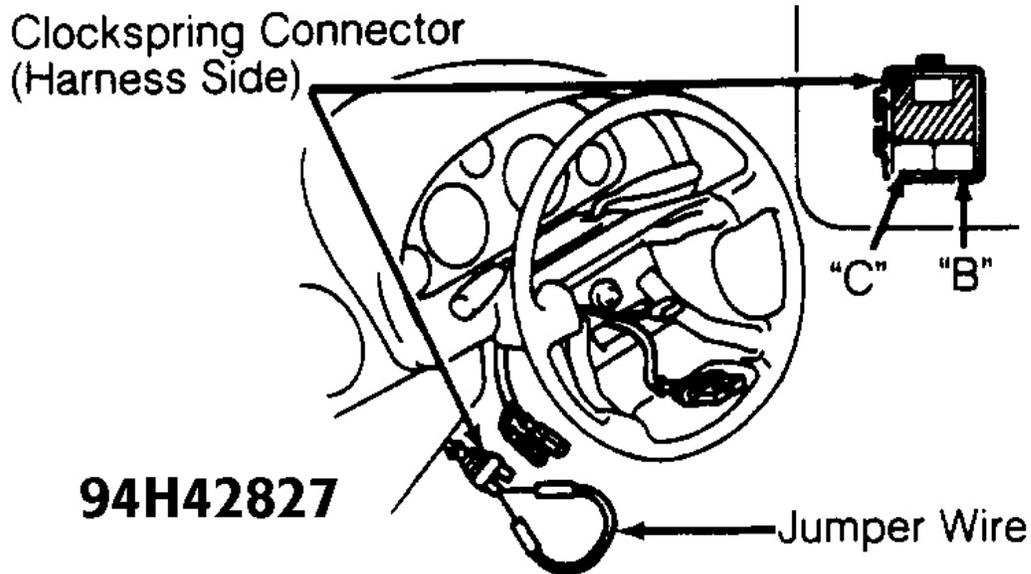

Fig. 10: Clockspring Connector Terminal ID (Harness Side)
1. Disable air bag system. See **DISABLING & ACTIVATING AIR BAG SYSTEM** . Connect a jumper wire between driver air bag module clockspring connector (harness side) terminals "B" and "C". See **Fig. 10** . Connect negative battery cable. Turn ignition on. Observe AIR BAG warning light. If AIR BAG warning light displays Code 32, go to step 4). If AIR BAG warning light displays a code other than 32, go to next step.
1. Disable air bag system. See **DISABLING & ACTIVATING AIR BAG SYSTEM**. Connect a one ohm resistor (rated power one watt) between driver air bag module clockspring connector (harness side) terminals "B" and "C". See **Fig. 10**. Connect a jumper wire between passenger air bag module connector
2. Connect a one ohm resistor (rated power one watt) between driver air bag module clockspring connector (harness side) terminals "B" and "C". See Fig. 10 . Connect negative battery cable. Turn ignition on. Observe AIR BAG warning light.